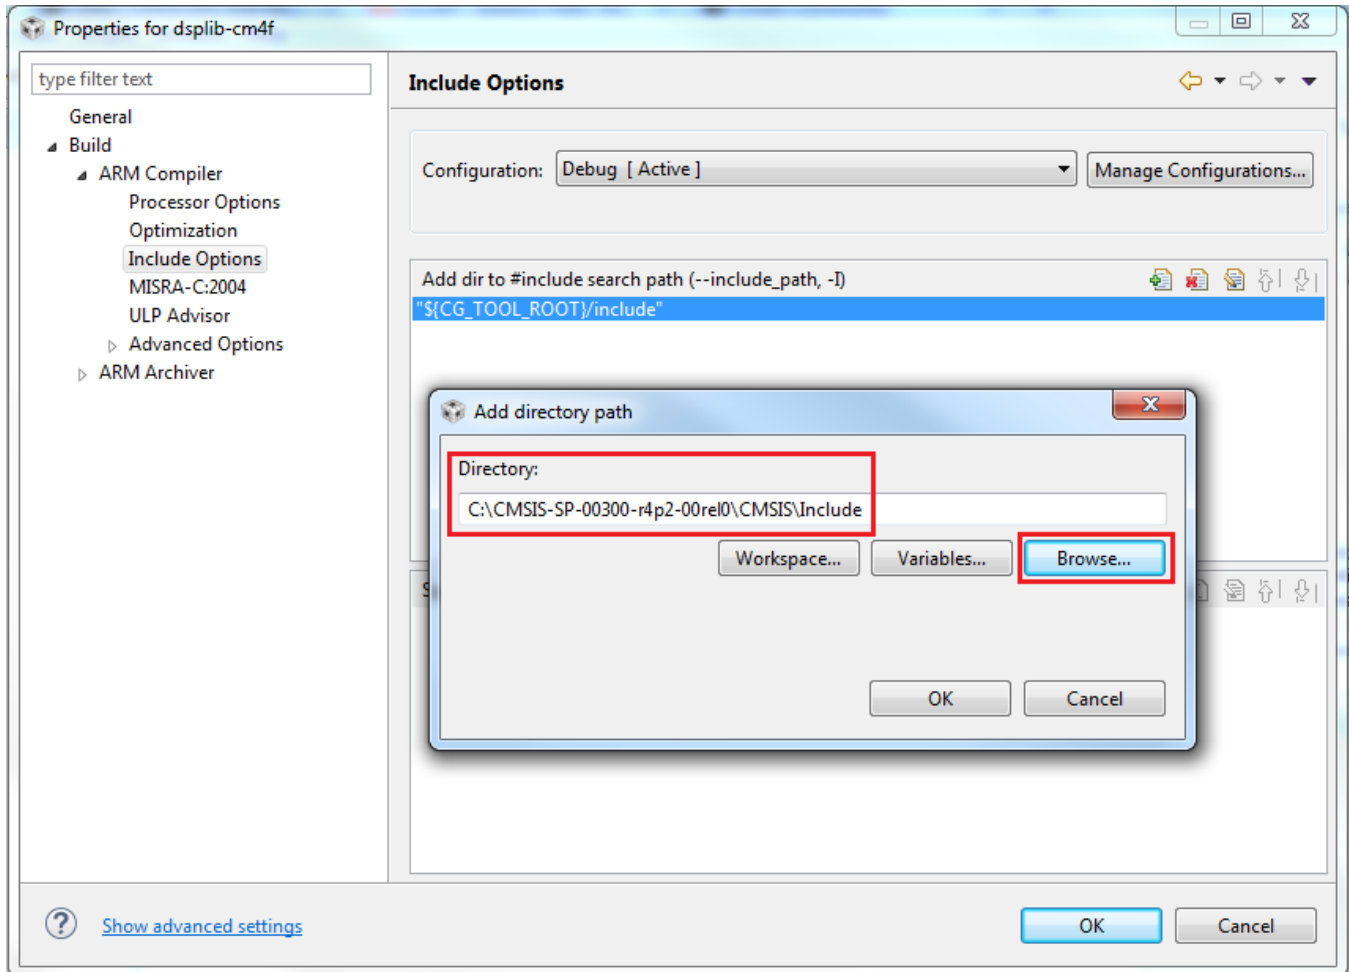

Figure 9. Adding the CMSIS Top Level Include Directory to the Compiler's #include Search Path
8. Add the DSP library CMSIS-<version>/CMSIS/Include directory to the compiler's include path in the Include Options panel. This is done by pressing the *Add* button by the *Add dir to #include search path* (`--include_path, -I`) (see Figure 9), then either typing in the path to the CMSIS Include directory or clicking *Browse* and navigating to the Include directory (CMSIS-<version>/CMSIS/Include).